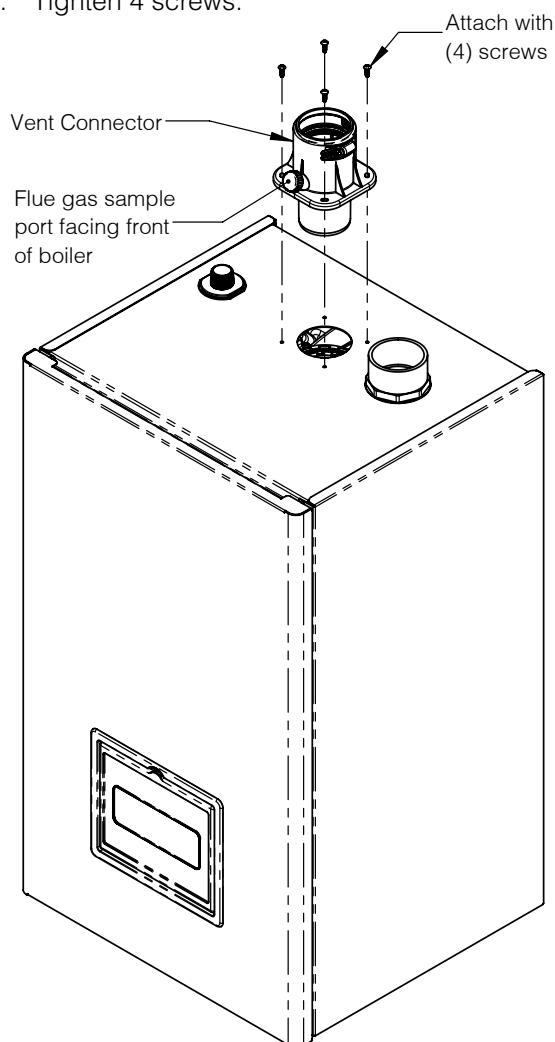

Figure 6-2: Installing Vent Connector
4. Insert vent connector through jacket into heat exchanger with flue gas sample port facing forward. See Figure 6-2.